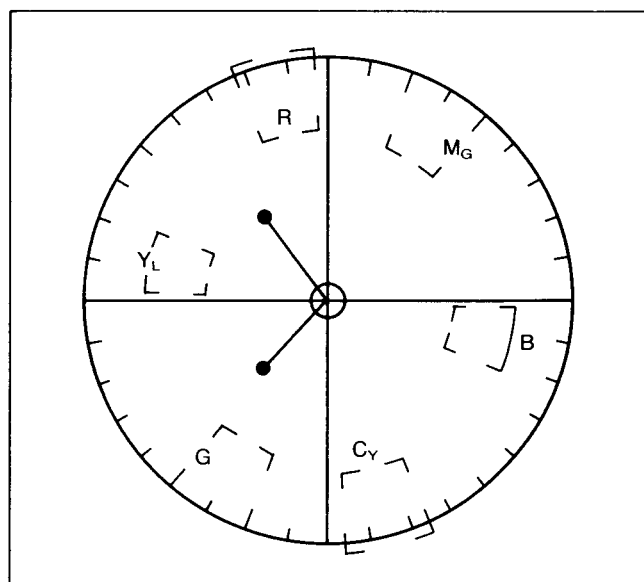

Fig. C20-1
- (1) Set the WHITE BALANCE Switch on the Camera Operation Unit to the "INDOOR".
- (2) Remove the jumper wire between TP4, TP5 and TP6.
- (3) Adjust the W.B. (R-Y OFFSET) and W.B. (B-Y OFFSET) Controls (VR314 and VR315) so that the colour vectors move to the centre of screen on the vectorscope. (Refer to Fig. C20-1.)